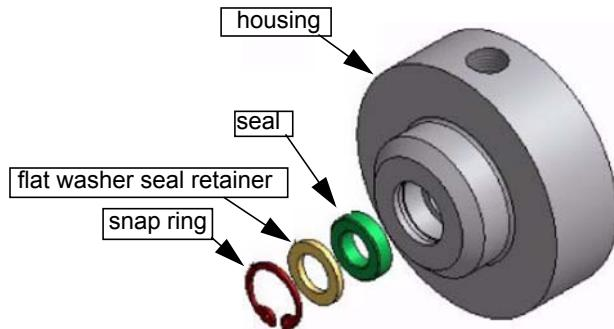

Figure 6-35
4. Remove the **snap ring** (Figure 6-35) with the set of internal snap ring pliers. Use small screwdriver to lift **flat washer seal retainer** out of housing bore. Remove the seal in the same fashion.